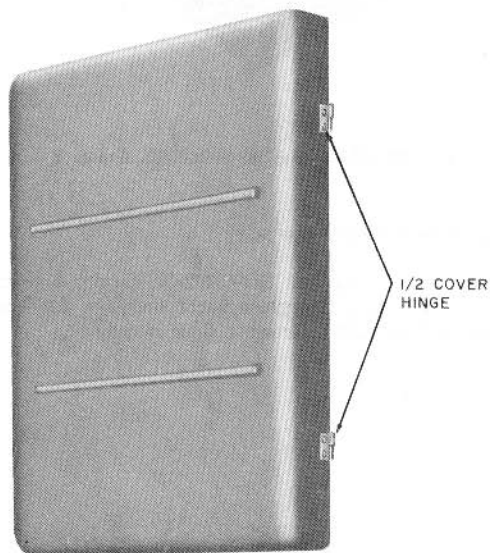

Fig. 41—Cover per ED-69463-50, Group 9
**8.08** The ED-69463-50, Group 9 (Fig. 41) cover is a formed plastic cover hinged on the right side and held closed by magnetic catches. The hinges are the lift-away type to simplify installation and removal for maintenance. The keepers for the magnetic catches are mounted on the left side of the gate. The cover becomes part of the gate and the gate can be opened without disturbing the cover. Two Group 9 covers are required for one Group 8 relay rack. Half of the hinges mount on the relay rack gate and the other halves are riveted to the Group cover.